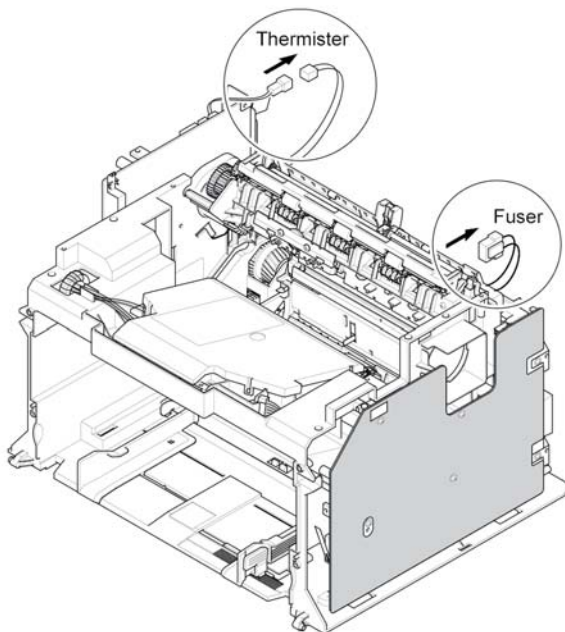

Figure 1
3. Unplug the 2 connectors from the SMPS and Main PBA, Figure 1.